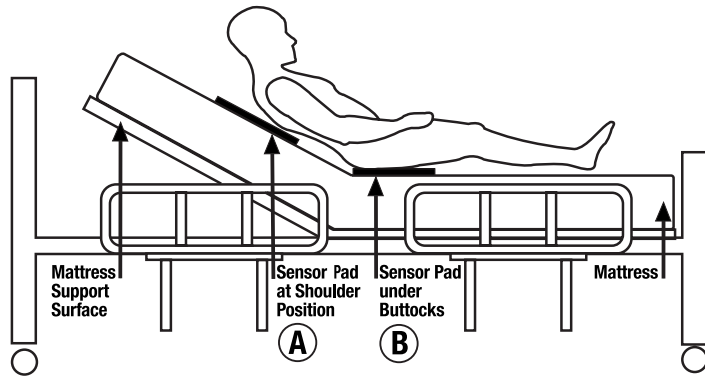

Fig 1: Position of Sensor Pad
- Choose a position for sensor pad (Fig 1):